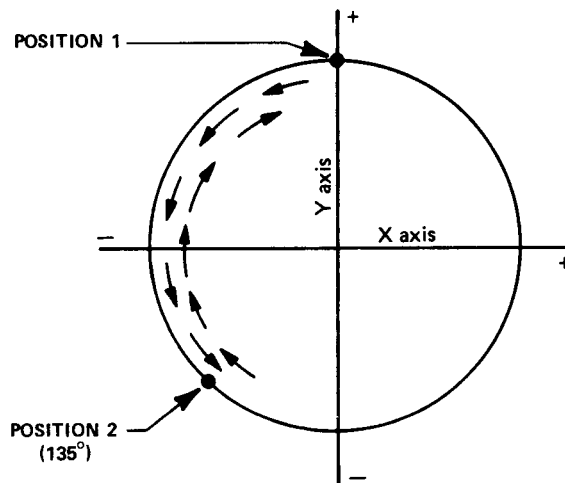

Figure 5-8 TRACK 0 STOP ADJUSTMENT PATTERN
3. Using the scope's Horizontal Position control, center the display dot on the top portion of the display Y axis, shown in Figure 5-8 as Position 1.